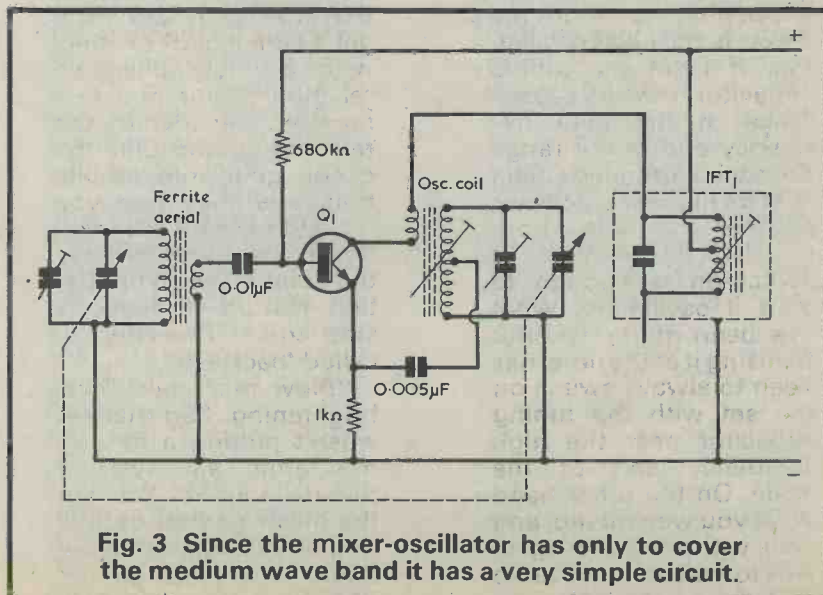

Fig. 3 Since the mixer-oscillator has only to cover the medium wave band it has a very simple circuit.
oscillator tuned coil has a tap which connects to the mixer emitter. So the oscillator feedback is from the mixer collector back to its emitter." (Fig. 3.)
Fig. 3 shows the 4047 connected for free-running astable operation. You can take an output at multivibrator frequency from pin 13, or an output at half multivibrator frequency either from pin 10 or from pin 11. The two divided outputs are guaranteed square waves. Frequency is controlled by the values of R and C.
4.62 is 4.40 plus 5%. So you can calculate cycle length by using the 4.40 figure, and this will give you the actual cycle length within -0% and + 5%. To take an example, let's say that R in Fig. 3 is 470kΩ and that C is 0.0022µF. The typical cycle length at the pin 10 output is then:
Fig. 3. Connecting up the 4047 as a free-running multivibrator. There are three outputs, one at multivibrator frequency, and two at half multivibrator frequency.